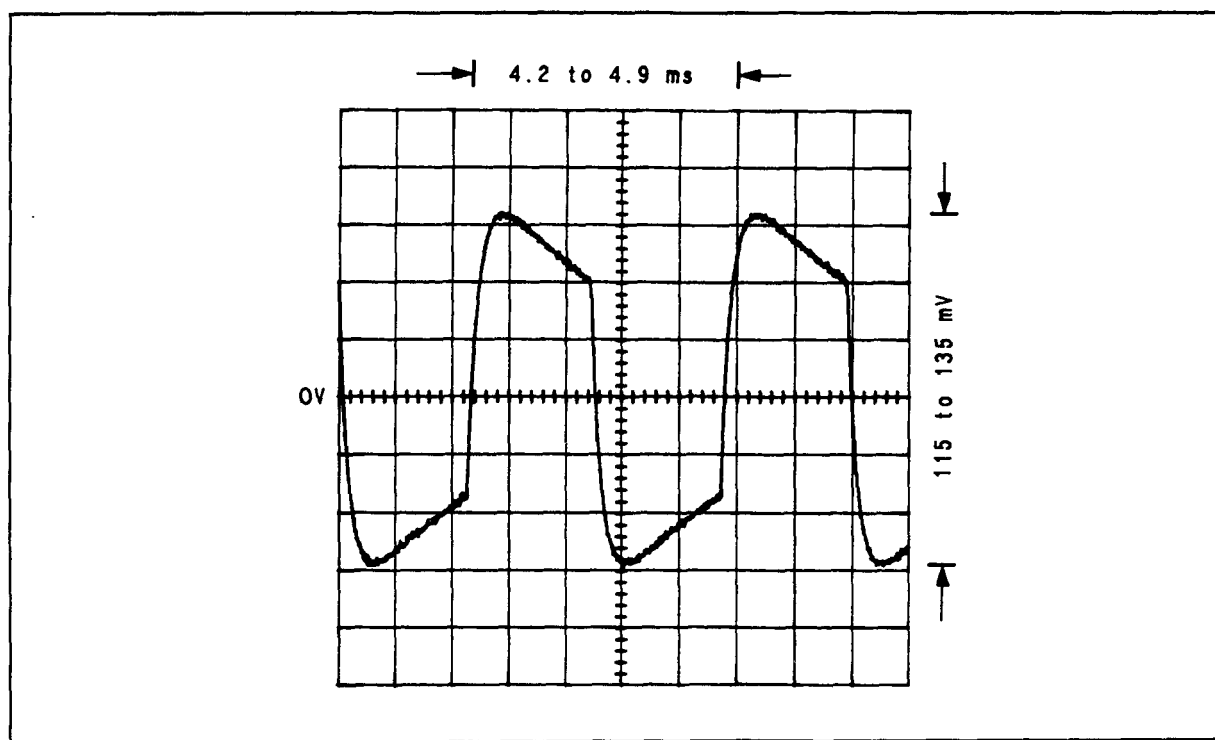

Figure 8F-2. Waveform for $\sqrt{1}$ Step 9
9. Press RF POWER. The waveform on the oscilloscope display should appear as shown in Figure 8F-2.